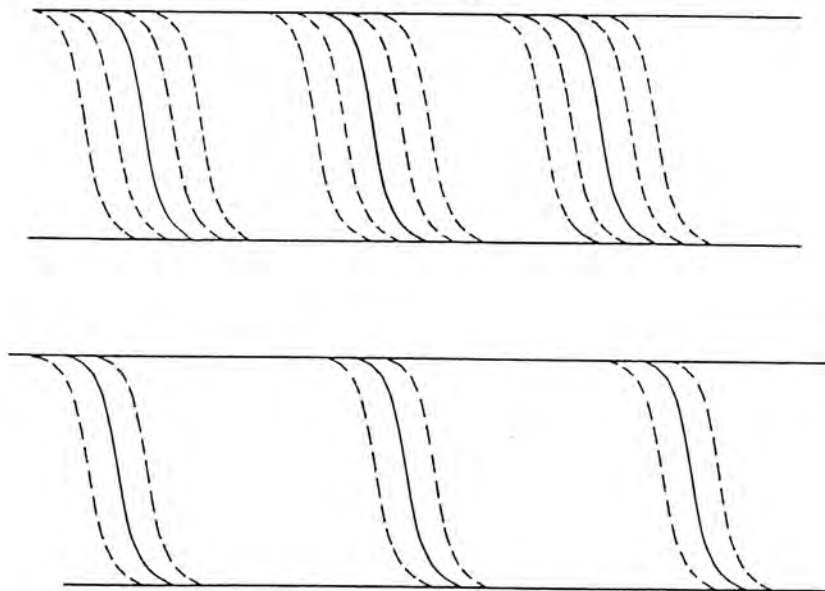

Figure 4-11 Time Code Equalization adjustment waveforms
4. Adjust the sweep, trigger, and level controls on the oscilloscope until a display similar to the one shown in Figure 4-11 is obtained.
5. Adjust the M CODE EQ trimmer [Fig 2-1, 4] until the zero crossing transitions are as completely superimposed on one another as possible as shown in Figure 4-11 b.